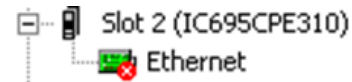

Figure 15: Expand CPU Slot to Display Ethernet Node
2. To configure the embedded Ethernet interface, expand the CPU slot to display the Ethernet interface (Figure 15).